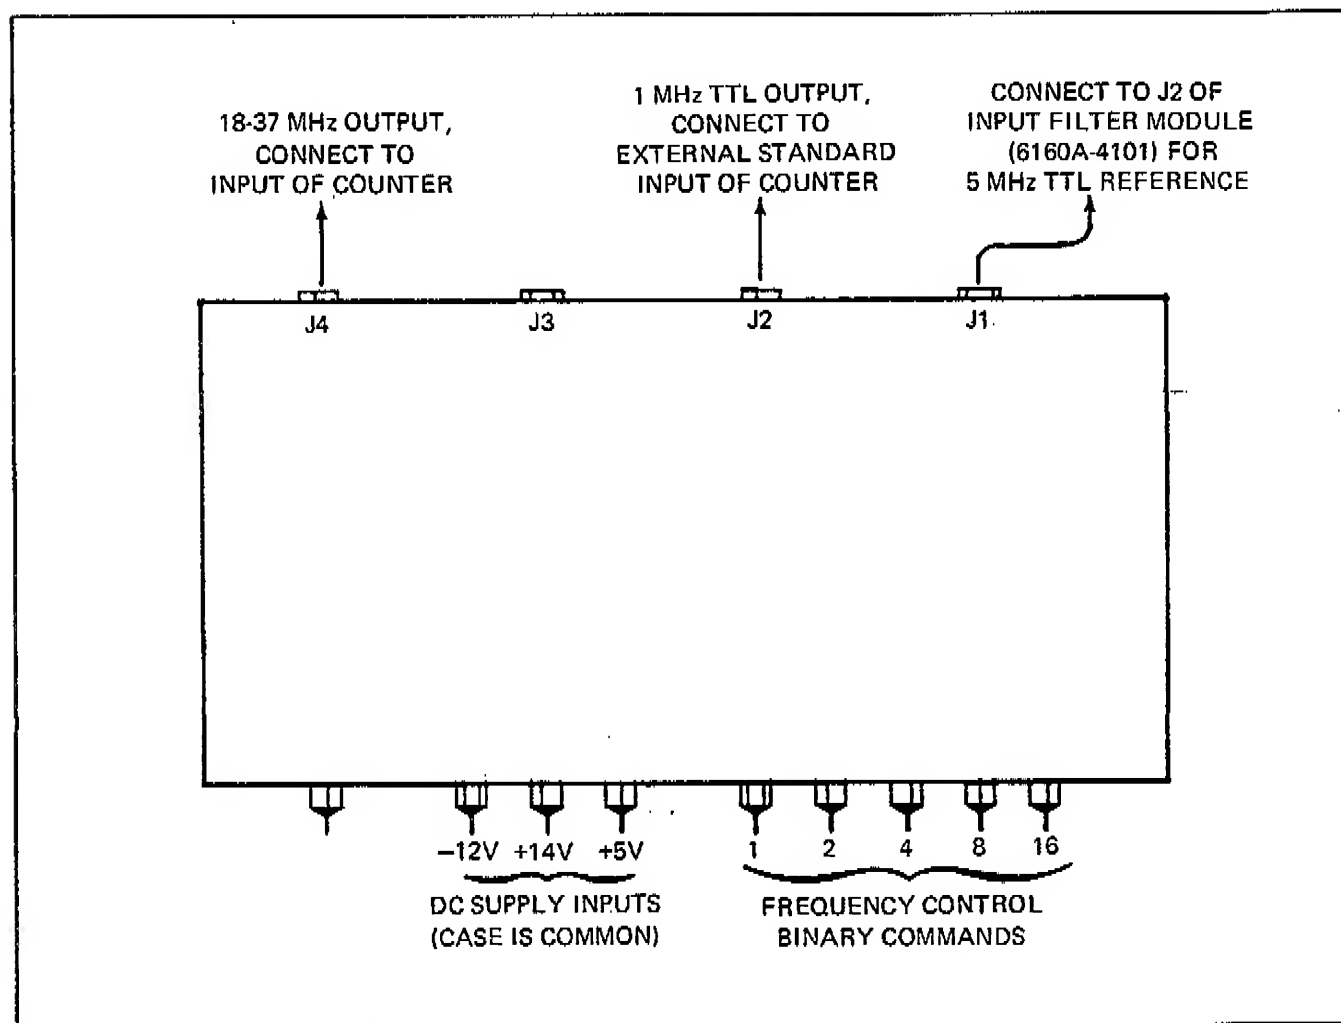

Figure 4-7. 1 MHz STEP LOOP EQUIPMENT CONNECTIONS.
- b. Connect dc supply voltage, 5 MHz TTL, and frequency counter (set for external standard mode) as shown in Figure 4-7.
- c. Program STP LP module for 18 MHz output at J4 by grounding appropriate feedthrough terminals (Figure 4-7) in accordance with Table 4-3.